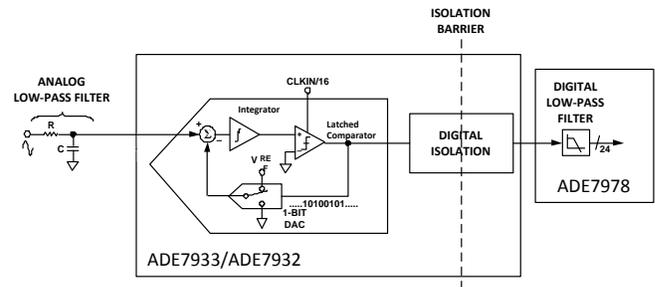
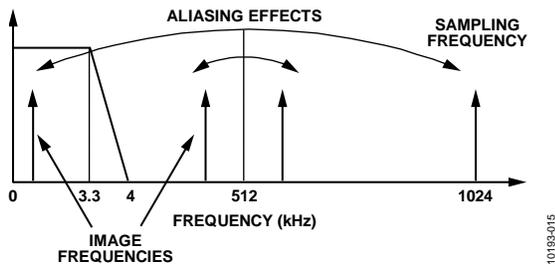

Figure 28. First-Order  $\Sigma$ - $\Delta$  ADC
Figure 30. Aliasing Effects
Figure 28 shows a first-order  $\Sigma$ - $\Delta$  ADC. The converter is composed of the  $\Sigma$ - $\Delta$  modulator and the digital low-pass filter, separated by the digital isolation block.
Figure 28 also shows an analog low-pass filter (RC) on the input to the ADC. This filter is placed outside the ADE7933/ADE7932, and its role is to prevent aliasing. Aliasing is an artifact of all sampled systems as shown in Figure 30. Aliasing means that frequency components in the input signal to the ADC, which are higher than half the sampling rate of the ADC, appear in the sampled signal at a frequency below half the sampling rate. Frequency components above half the sampling frequency (also known as the Nyquist frequency, that is, 512 kHz) are imaged or folded back down below 512 kHz. This happens with all ADCs regardless of the architecture. In the example shown, only frequencies near the sampling frequency, that is, 1.024 MHz, move into the band of interest for metering, that is, 40 Hz to 3.3 kHz. To attenuate the high frequency (near 1.024 MHz) noise and prevent the distortion of the band of interest, a low-pass filter (LPF) must be introduced. It is recommended to use one RC filter with a corner frequency of 5 kHz for the attenuation to be sufficiently high at the sampling frequency of 1.024 MHz. The 20 dB per decade attenuation of this filter is usually sufficient to eliminate the effects of aliasing for conventional current sensors.